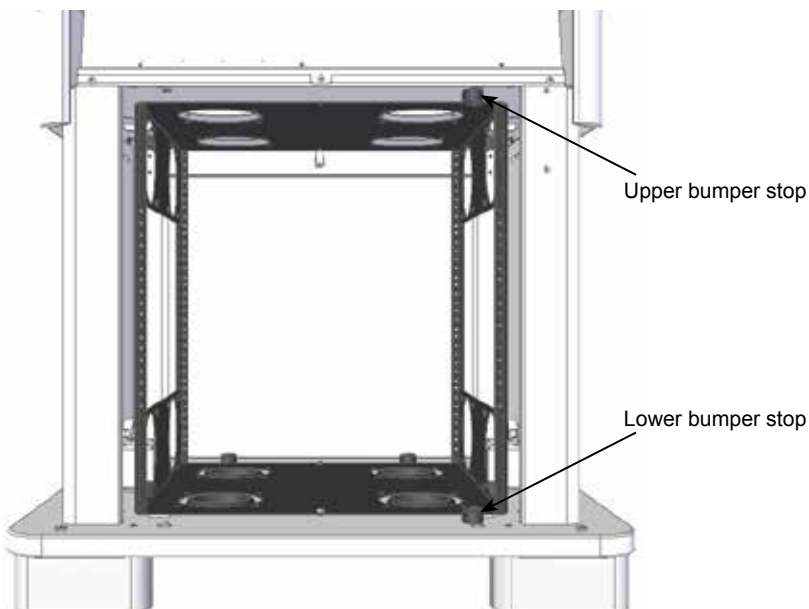

Figure 5B
2. Remove the upper and lower bumper stops with a 4mm hex wrench. **Figure 5B.**